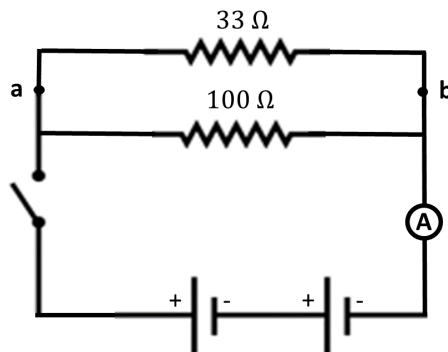

Figure 6.10: Circuit diagram with two resistors in parallel.
1. Use the modules to build the circuit with two resistors in parallel as shown in Fig. 6.10.